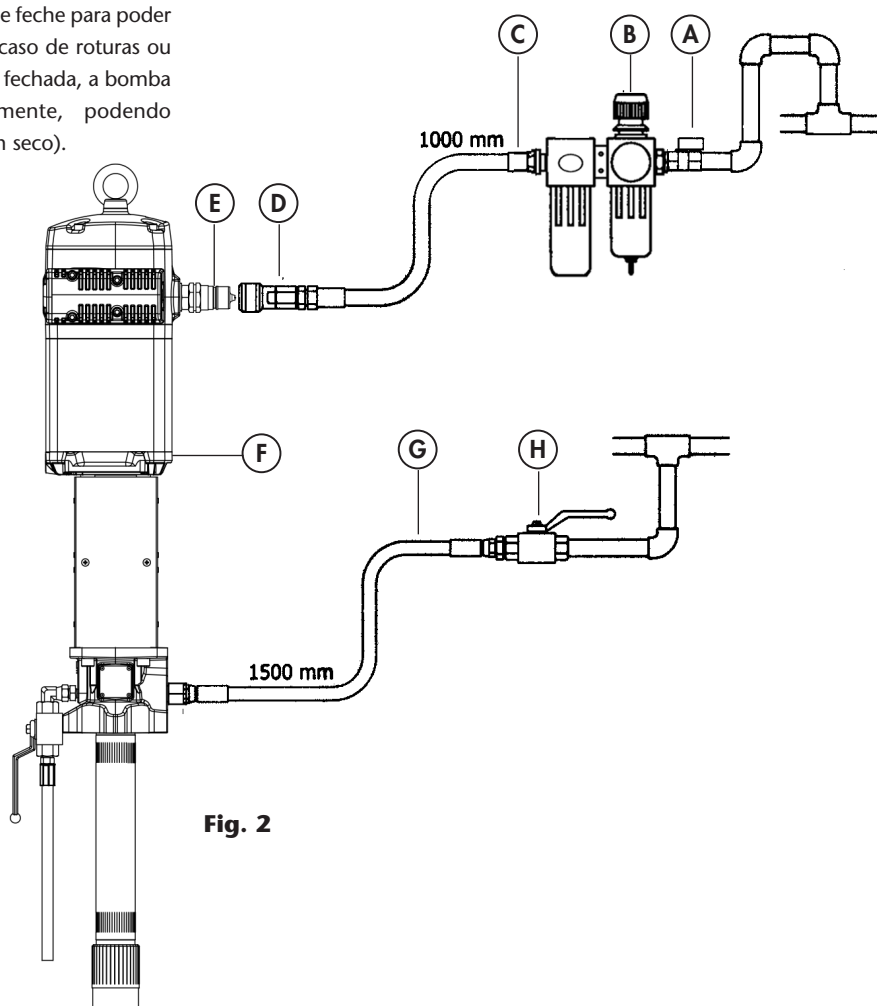

Fig. 2
Figure 2 is a typical installation shown with all the recommended accessories for the pump to operate correctly.
1. Open the bleed air valve (85). The pump can now expel any air trapped in (fig. 2).
3. Close the pump air bleed valve (85) as soon as the material trapped air is pumped out of the valve.